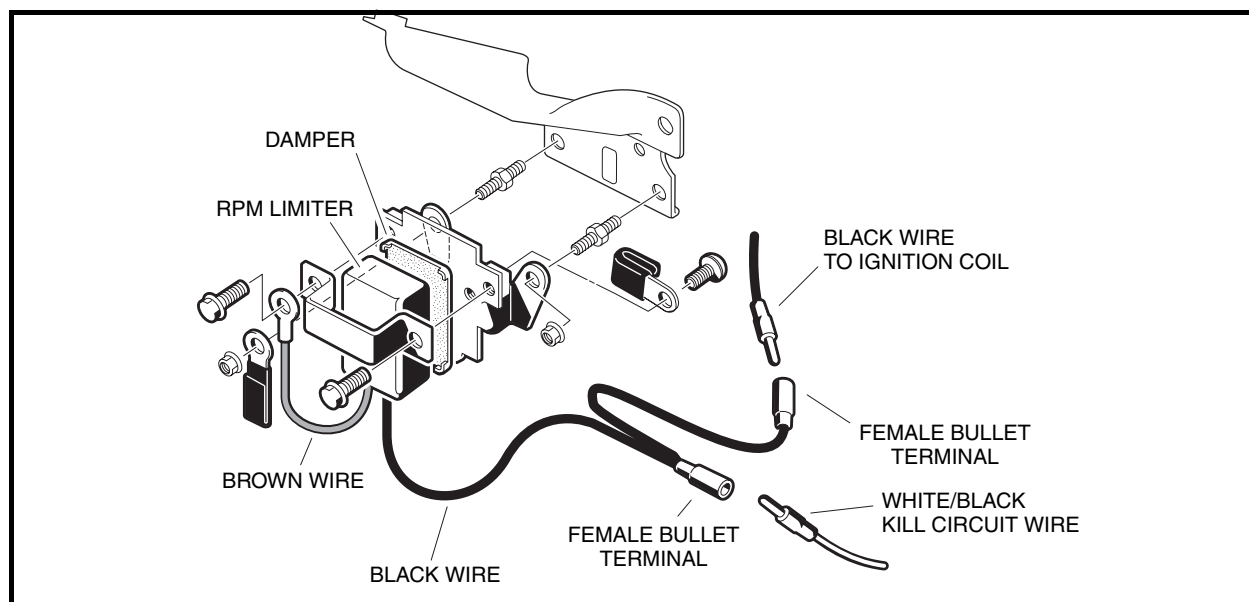

Figure 12-24 RPM Limiter Assembly
2. Disconnect the white/black wire from the black wire at the bullet connector located near the RPM limiter (**Figure 12-24, Page 12-24**).
4. Remove the flange-head bolts from the RPM limiter band and remove the RPM limiter and the damper (**Figure 12-24, Page 12-24**).
1. Place the RPM limiter damper on the front of the RPM limiter mounting bracket (**Figure 12-24, Page 12-24**).